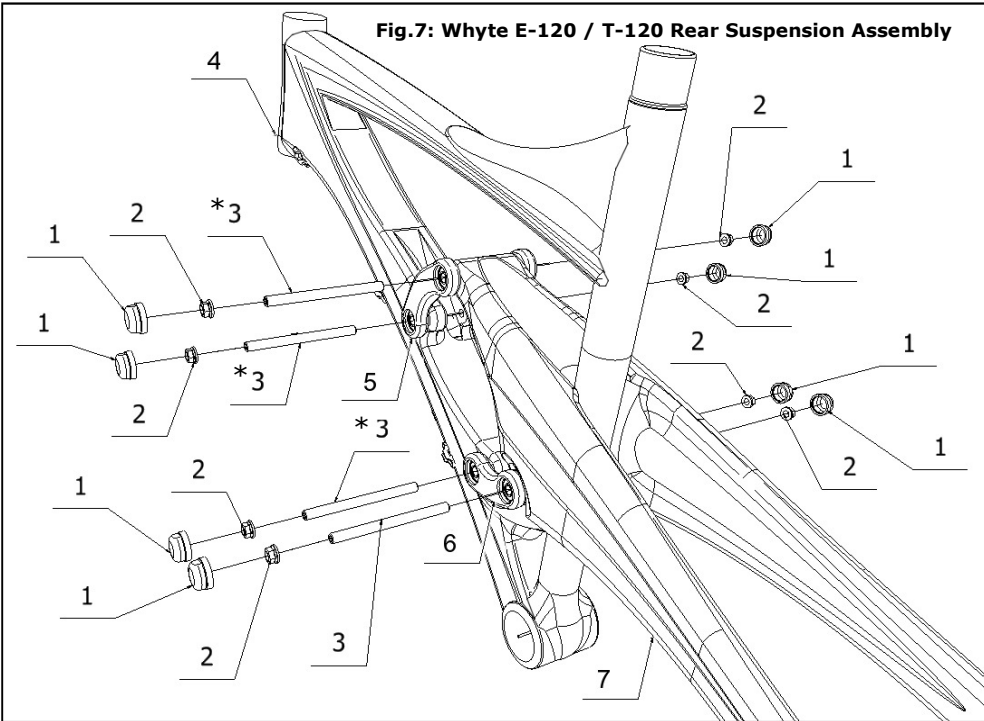

Fig.7: Whyte E-120 / T-120 Rear Suspension Assembly
Reference figure 7. To remove the rear damper from the frame, using the 19mm open ended spanner, unscrew the 8 Bearing Caps (1), 4 caps per each link. Next using the 10mm Sockets, undo the M8 Aerospace nuts (2) on the M8 shaft (3 or *3) that passes through the rear link assembly (6) and swinging arm (7). Whichever Aerospace Nut (2) becomes undone first, remove it, and pull the M8 Shaft (3 or *3) out from the other side. The swinging arm (7) can now be rotated out of the rear link assembly (6). In E-120 models made before 2011, be careful to retain all the shield washers that fit into the Quad-Link assemblies, see fig. 8 (note that all models manufactured from 2011 model year onwards, the shield washers are replaced by a flange incorporated into each KP5AX bearing). Next using the 10mm sockets undo the M8 Aerospace nuts (2) on the M8 Shaft (3 or *3) that pass through the front of the Swinging Arm (7). Whichever Aerospace Nut (2) becomes undone first, remove it, and pull the M8 Shaft (3 or *3) out from the other side. You can now lift off the Swinging Arm (7) from the front (5) and rear (6) link assemblies. To remove the links (5 & 6) from the main frame (4) using the 10mm Sockets, undo the M8 Aerospace nuts (2) on the M8 shaft (3 or *3) that passes through the Main Frame (4) and front of the Shock assembly. Again whichever Aerospace Nut (2) becomes undone first, remove it, and pull the M8 Shaft (3 or *3) out from the other side. You can now remove the Shock assembly (not shown) and Front Link Assembly (5) from the main frame (4). To Remove the Rear Link Assembly (6) from the bike, using the 10mm Sockets, undo the M8 Aerospace nuts (2) on the M8 shaft (3 or *3) that passes through the Rear Link Assembly (6) and the Main Frame (7) and remove the M8 shaft (3 or *3) and the Rear Link Assembly (6) from the Main Frame (4). In E-120 models made before 2011, be careful to retain all the shield washers that fit into the Quad-Link assemblies, see fig. 8.